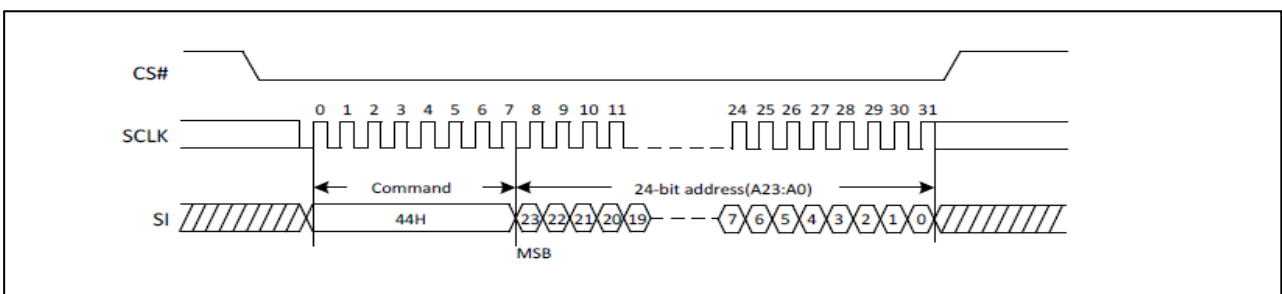

Figure30. Erase Security Registers command Sequence Diagram
The Erase Security Registers command sequence: CS# goes low, sending Erase Security Registers Command, CS# goes high. The command sequence is shown in Figure 30. CS# must be driven high after the eighth bit of the command code has been latched in, otherwise the Erase Security Registers command is not executed. As soon as CS# is driven high, the self-timed Erase Security Registers cycle (whose duration is tSE) is initiated. While the Erase Security Registers cycle is in progress, the Status Register may be read to check the value of the Write In Progress (WIP) bit. The Write In Progress (WIP) bit is 1 during the self-timed Erase Security Registers cycle, and is 0 when it is completed. At some unspecified time before the cycle is completed, the Write Enable Latch (WEL) bit is reset. The Security Registers Lock Bit (LB) in the Status Register can be used to OTP protect the security registers. Once the LB bit is set to 1, the Security Registers will be permanently locked; the Erase Security Registers command will be ignored.